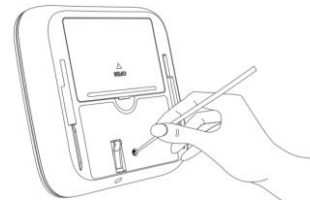

Figure 3
1. To enter interlinking mode, press the NETWORKING button on the rear of the controller 3 times within 2 seconds (Figure 3). The GREEN LED on the wireless controller will light up indicating that it has entered networking mode and is ready to be paired with wireless alarms. The first alarm must be paired with the wireless alarm controller within 30 seconds or the network will timeout.